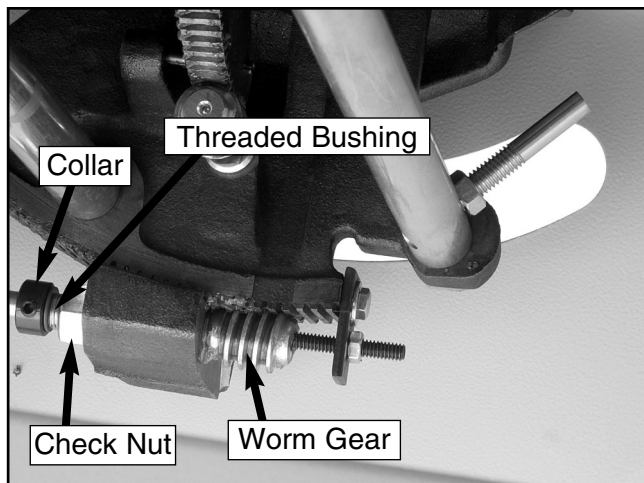

Figure 60. Blade tilt worm gear assembly.
3. Loosen the collar setscrew and slide the collar away from the check nut (**Figure 60**).
4. Loosen the check nut and thread it completely off of the threaded bushing (**Figure 60**).